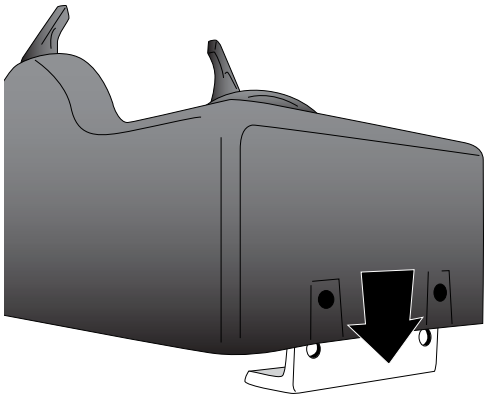

Figure 5
First, make sure that the power is disconnected from the supply wiring. Next, connect the positive power source wire securely to the red conductor located on the back of the Powerhouse. Then connect the negative power source wire securely to the black conductor located on the back of the Powerhouse. Lower the Powerhouse on to the mounted bracket, and attach with the four (4) #10 stainless steel Phillips-head pan screws included in your installation kit (Figure 5). You may have to press gently to compress the four rubber anti-vibration pads on the bottom of the Powerhouse in order to properly seat the screws. Installation is now complete.